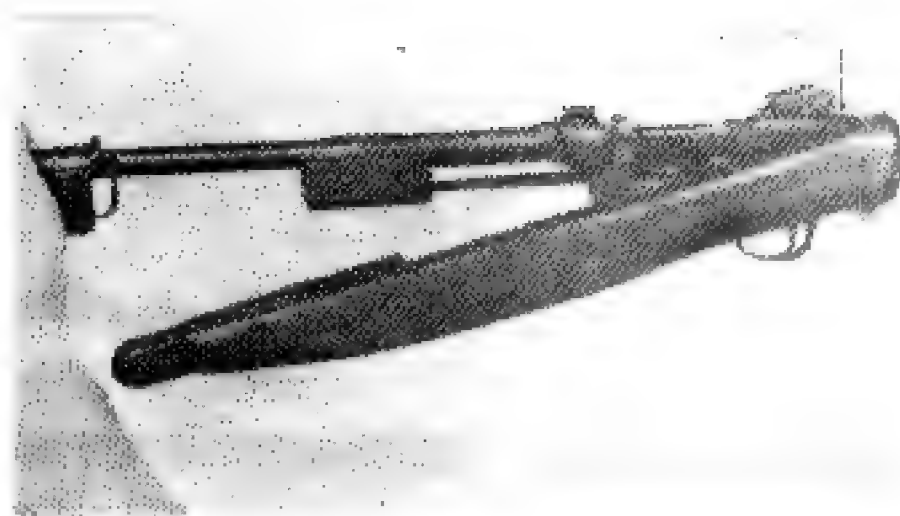

Figure 6. Separating the stock group and the barrel and receiver group.
e. Place the carbine on a level surface, muzzle left and sight up. Grasp the small of the stock with the right hand and the barrel with the left hand. Raise the muzzle end of the barrel about 15 degrees until the recoil plate is released from the receiver (Fig. 6). Then separate the barrel and receiver group from the stock group. Place the stock group next to the hand guard.